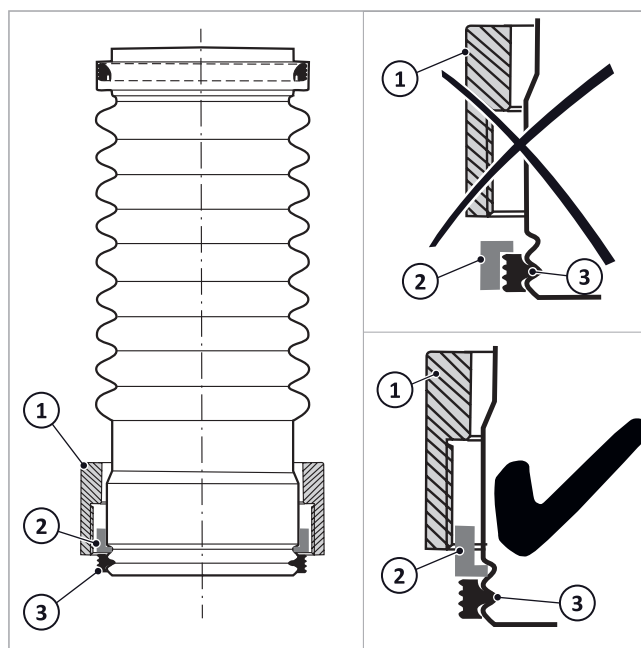

Fig. 17: Union attached
1. As shown in → fig. 17, slide the union nut (1), the snap ring (2) and the seal (3) onto the lower pipe end of the exhaust connection piece.